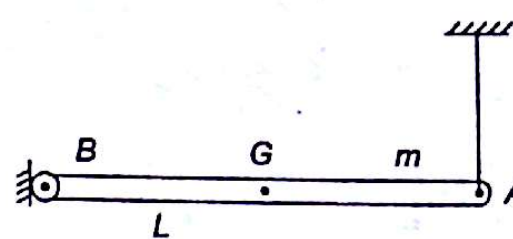

Fig. 17.18
17.5 A uniform bar of mass m , length L is supported by a string at end A and a hinge at B as shown in Fig. 17.18. Suddenly the string breaks at end A what is angular acceleration of the bar?